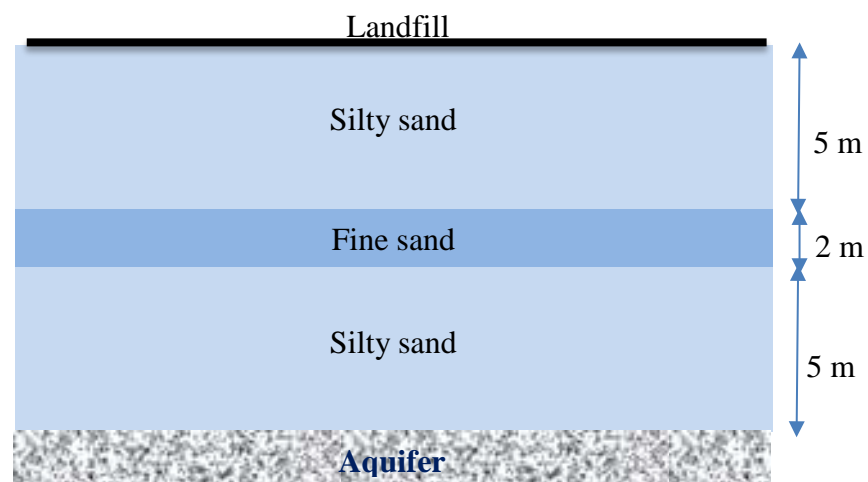

Fig. 3
- (d) A wide landfill is founded on a silty sand layer that sandwiches a fine sand layer as shown in Fig. 3. There is an underlying, free draining aquifer that needs to be protected against contamination from the landfill. The hydraulic conductivities of the silty sand layer and the fine sand layer are  $3.2 \times 10^{-7} \text{ m s}^{-1}$  and  $4.8 \times 10^{-5} \text{ m s}^{-1}$  respectively. The leachate level is 1 m above the landfill base. The coefficient of hydrodynamic diffusion  $D_d^*$  for the chloride ion is  $6.5 \times 10^{-8} \text{ m}^2 \text{ s}^{-1}$  and the longitudinal dispersivity is 0.1 m, for both soils. [20%]